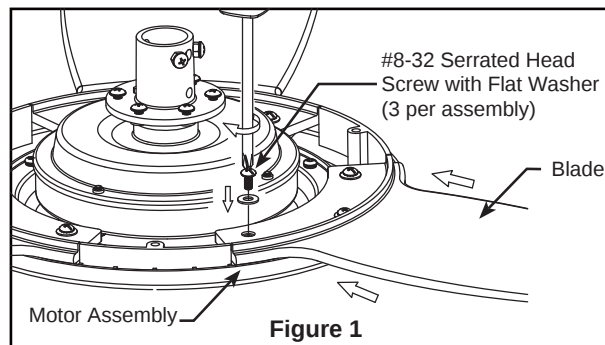

Figure 1
Your new ceiling fan will require a grounded electrical supply line of 120 volts AC, 60 HZ, 15 Amp Circuit. Electrical code requires use of a fan-rated outlet box to support the extra weight and motion associated with a ceiling fan. A fan-rated box will be labeled as such and typically supports up to a 70lb ceiling fan. Fan-Rated Outlet Boxes vary in ratings and design. Ensure the ratings of your ceiling fan outlet box meet the requirements for the ceiling fan being installed. Figure 1, Figure 2 and Figure 3 depicts different structural configurations that may be used for mounting the outlet box.
Low profile box (Figure 1)
1. Slide blades through slots in motor housing and attach to the motor hub using the #8-32 serrated head screws and flat washers. Make sure the screws securing the blades to the motor hub are tight and are properly seated. (Figure 1)